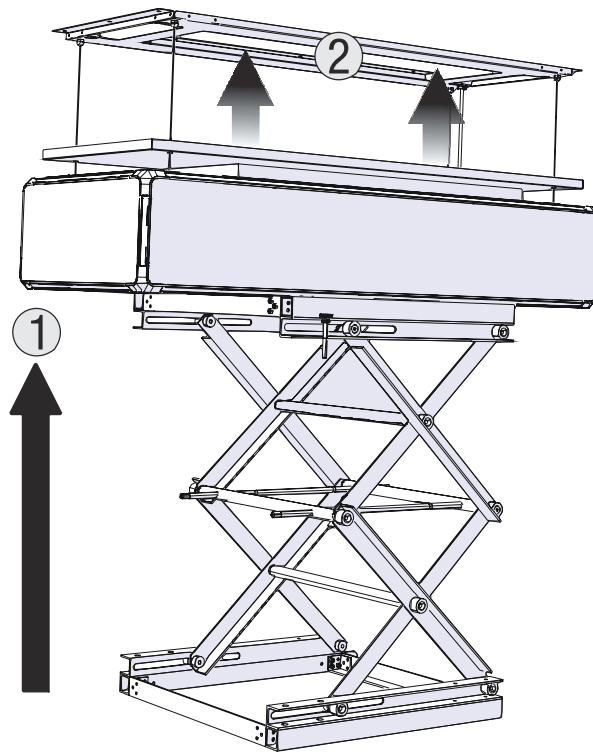

Fig. 25
6. ➔ Place the device on a platform and lift it up (Fig. 25 / 1).
Lift the hanger plate up (Fig. 25 / 2).